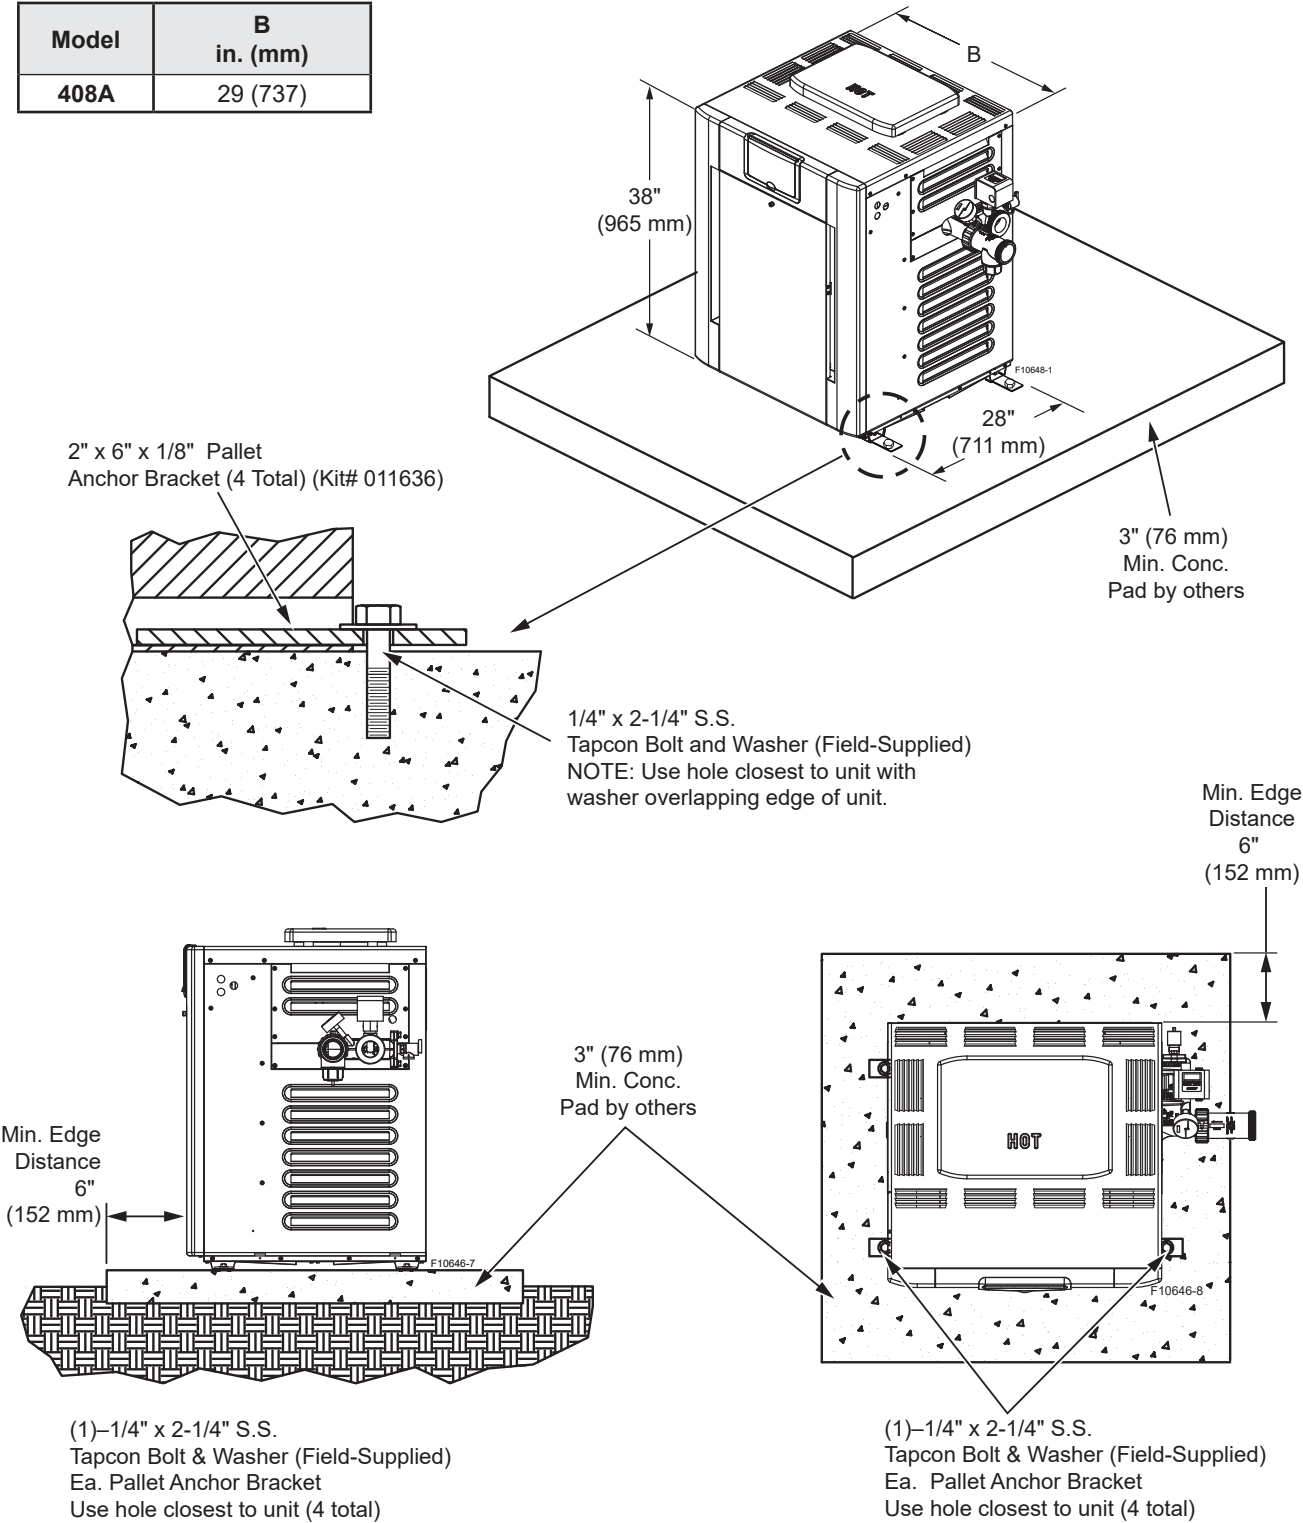

Figure 5. Hurricane Tie-Down Bracket Installation
**For installations in Florida and Texas,** that must comply with the Florida or Texas Building Code, follow the directions shown in **Figure 5** for the installation of hurricane tie-down brackets for all models.